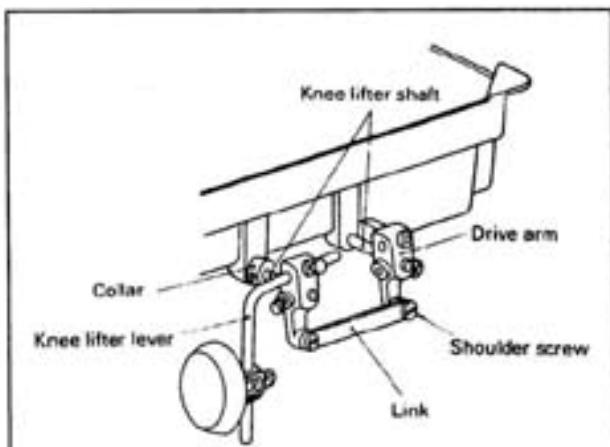

Fig.8
9. Installing the knee lifter (Fig.8) :